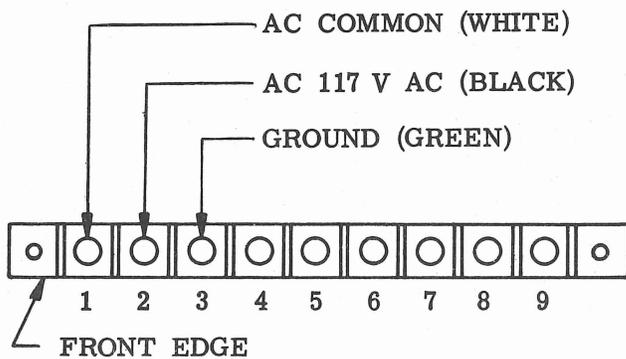

Figure 10 - AC Input Power Terminal Block, TB1001
5.06 The ac power connections can now be made; however, do not apply power to the cabinet until the cabinet ground bus and system connections have been completed. Refer to Figure 10. Ac power wiring is terminated at a terminal block inside the front door. Using the power cord supplied or other suitable wiring, connect ground (green) to terminal block TB1001, terminal 3, ac common (white) to terminal 1, and 117 volt ac lead (black) to terminal 2.